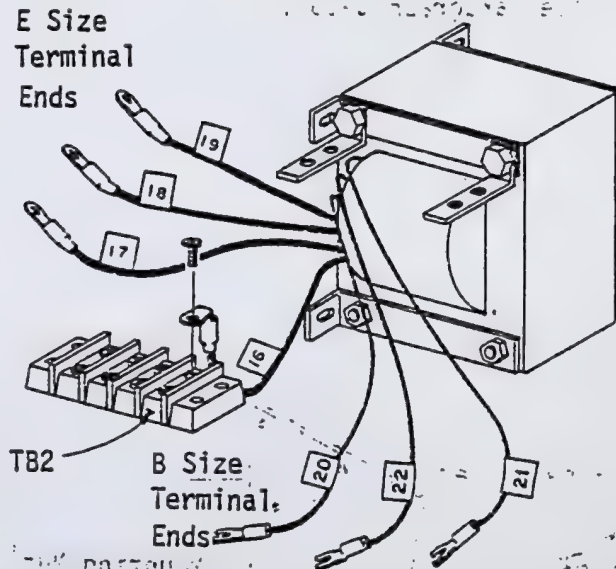

Figure 5-56. Terminal End Attachment
2. Attach an E size terminal end with heat shrink tubing (see Paragraph 5-58) to each of the four large transformer wires and label the wires 16-17-18-19 as shown in Figure 5-56.
3. Attach a B size terminal end to each of the three remaining secondary wires (Figure 5-56). Label the two yellow wires 20 and 21, and label the yellow/green wire 22.
4. Bend each of the E size terminal ends at a right angle as shown in Figure 5-56. Mount the four large wires to one side of the 4-terminal block (TB2), using the screws provided.